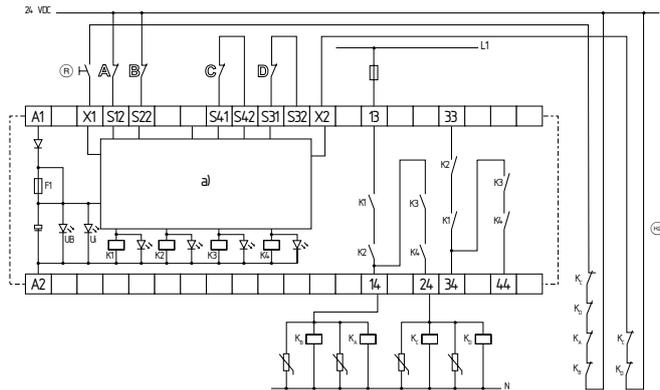

Fig. 2: SRB400CS, SRB400CS/T, SRB400SNA
Dual-channel control, shown for an emergency stop circuit; with two contacts A and B and a guard door monitor with two contacts C and D, where at least one is a positive break contact; with external reset button (R) (related on the switch-off level 1) (see Fig. 2)
- (R) = Feedback circuit